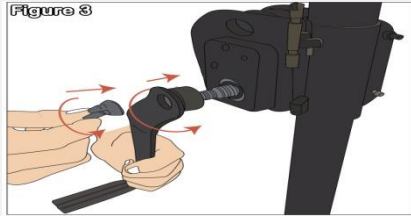

Figure 3
Step 2 – Take the handle and insert it through the bolt beside the cranks and secure with a wing nut as shown in **Figure 3**.